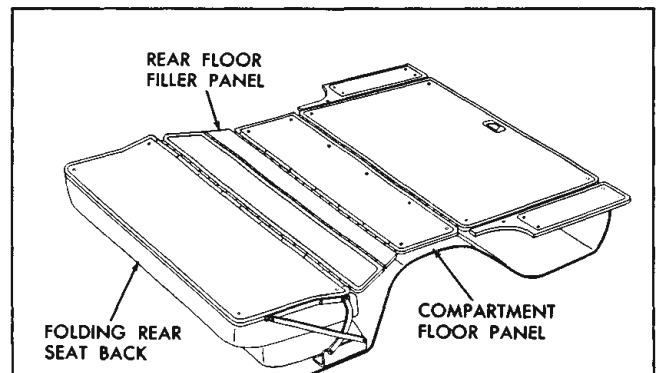

Fig. 18-9 Folding Rear Floor Filler Panel Assembly
2. Remove filler panel to folding seat back attaching screws and filler panel to rear seat pan attaching screws as shown in Fig. 18-9 and remove filler panel from body.